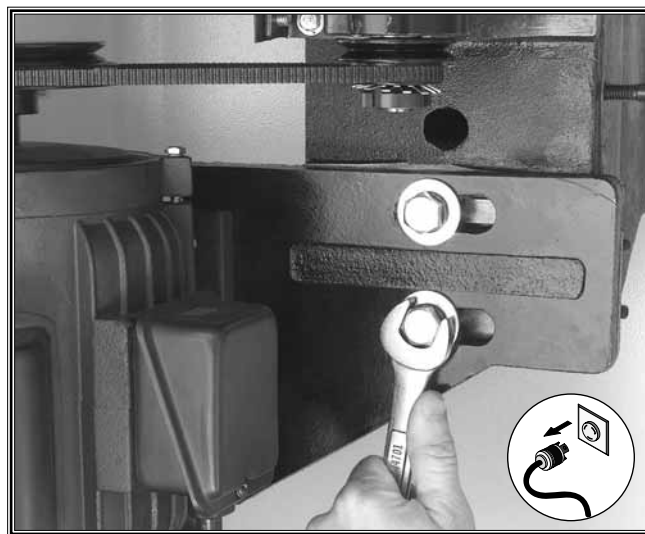

Figure 30. Loosening spindle slide bolts.
2. Loosen the two spindle slide bolts that hold the motor mount plate to the spindle slide as shown in **Figure 30**. DO NOT remove the bolts completely.